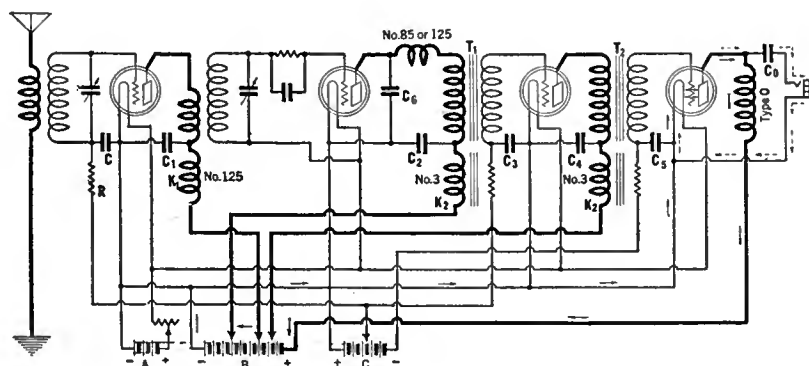

FIG. 1
**TYPE 125**—This choke coil is similar to the type 85 and can be used for the same purposes. Three of these chokes gave an average inductance of 200 millihenrys and an average d.c. resistance of 400 ohms when measured in the Laboratory. Home-constructors unfamiliar with chokes and their uses might consider a resistance of 400 ohms to be too high, but this is not so. Suppose we had a 201-A tube in an r.f. amplifier, operating with 90 volts on the plate and a 4½-volt C battery. The plate current would be about 0.002 amperes. Now, if we wanted to keep the r.f. currents out of the B battery we would put a choke coil, K1 in Fig. 1, in the plate circuit of the tube, and then bypass the r.f. currents to the filament with the condenser C1. If the choke coil was a type 125 its impedance at 500 kilocycles would be 627,000 ohms. Its impedance, being proportional to the frequency, would be even higher at higher frequencies.
**TYPE 3**—This choke coil is for use in filtering audio frequency currents out of any circuit. The average inductance of three samples proved to be 3.1 henrys, and the average resistance, 586 ohms. These choke coils are suitable for use in audio frequency circuits whereas the other choke coils are designed for radio-frequency circuits. Two points at which these chokes might be used are indicated in Fig. 1, K2, where they function to prevent, to a considerable extent, coupling in the plate supply which might cause
**TYPE O**—This is an output impedance to be used in eliminating the direct current from the windings of a loud speaker. A fixed condenser with a capacity of two microfarads or more must be used in conjunction with this output device. See Fig. 1. Note how the audio currents indicated by the dotted lines flow directly back to the filament and do not pass through the battery. Price \$5.00.